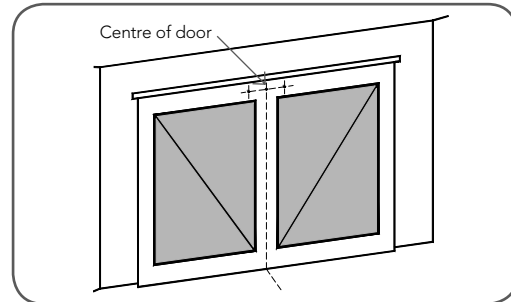

Fig 16
- Draw two lines 21.5mm either side of this (Fig. 16).